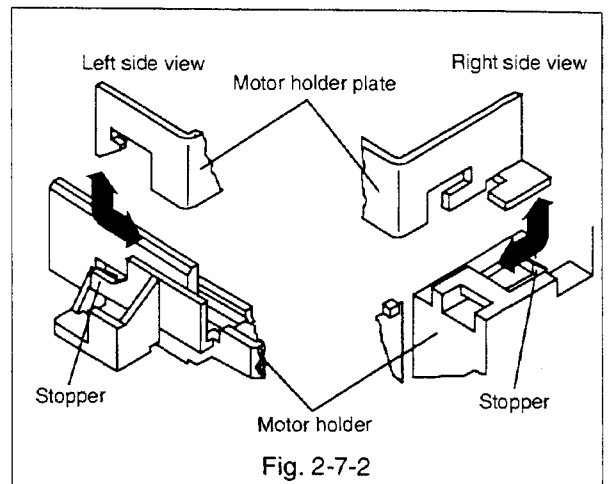

Fig. 2-7-2
- C. Remove two stoppers securing the motor and the motor holder plate. (Refer to Fig. 2-7-2.)